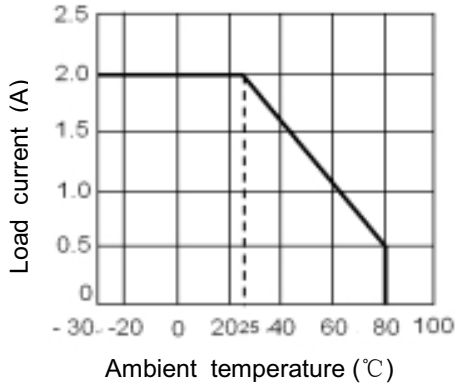

Figure 1 Maximum load current vs. ambient temperature
Notes: (1) All parameters at 25 °C. (2)See figure 1.